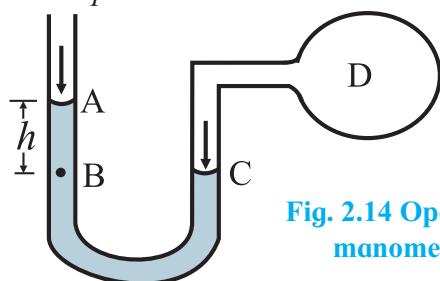

Fig. 2.14 Open tube manometer.
**ii) Open tube manometer:** A manometer consists of a U – shaped tube partly filled with a low density liquid such as water or kerosene. This helps in having a larger level difference between the level of liquid in the two arms of the manometer. Figure 2.14 shows an open tube manometer. One arm of the manometer is open to the atmosphere and the other is connected to the container D of which the pressure  $p$  is to be measured.